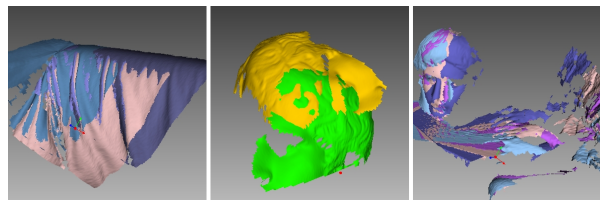

Figure 8.4.: Possible scan errors.
- Misaligned frames (see Figure 8.4., left)—may occur because of small size, an insufficient number of geometrical features on the object or an insufficient number of polygons in a frame.
- Misaligned parts (see Figure 8.4., middle)—occurs when the real-time alignment algorithm incorrectly determines the position of the new frame relative to previous ones.
- Unwanted objects in the frame (see Figure 8.4., right).